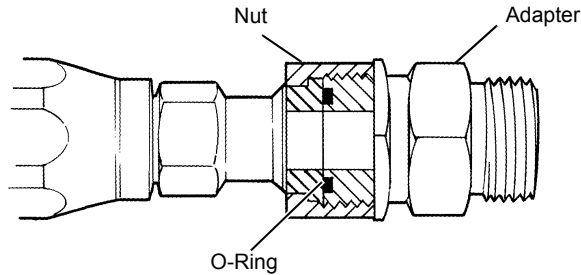

FIGURE 2-5
- Lubricate and install O-ring in adapter groove (Figure 2-5).